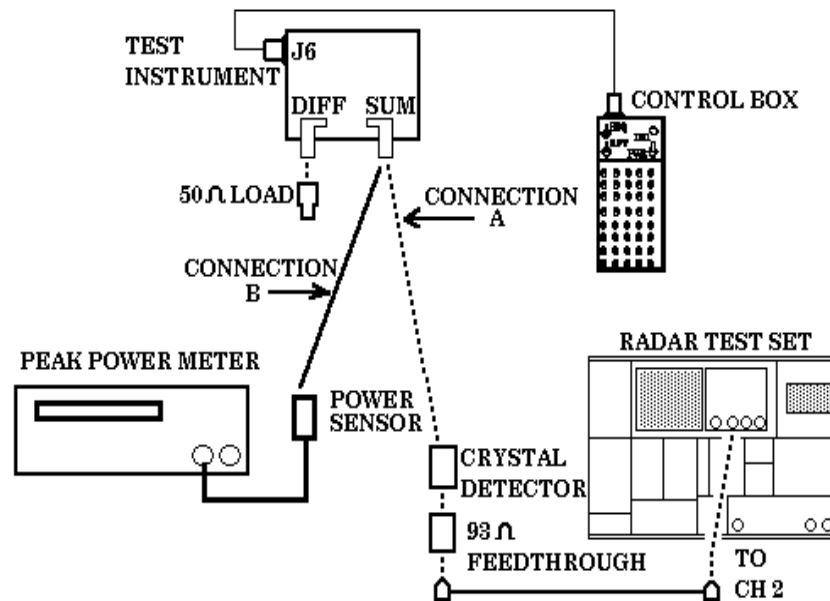

Figure 8. Transmitter power - equipment setup.
- (1) Connect equipment as shown in figure 8, CONNECTION A.
- (2) Adjust oscilloscope controls as listed in (a) through (e) below:
- (3) Set control box **PWR** switch to **ON** and ensure **RPT** and **SEQ** switches are in the **OFF** position.
(5) Connect equipment as shown in figure 8, CONNECTION B.
(6) Press TI **LAMP TEST** pushbutton.
(7) Measure peak power from **SUM** connector. Peak power meter will indicate between + 2 and + 6 dBm.
(8) Connect equipment as shown in figure 8, CONNECTION B, except reverse SUM and DIFF connections (50 Ω load to SUM and power sensor to DIFF).